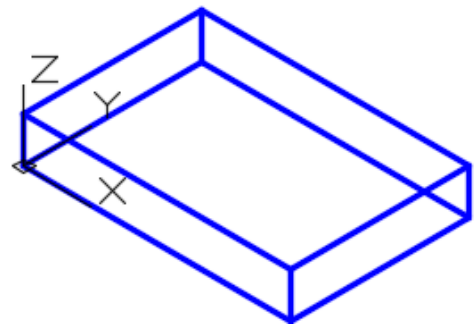

Figure Step 5
Step 5 Enter the BOX command, as shown below, to draw the solid box. (Figure Step 5).